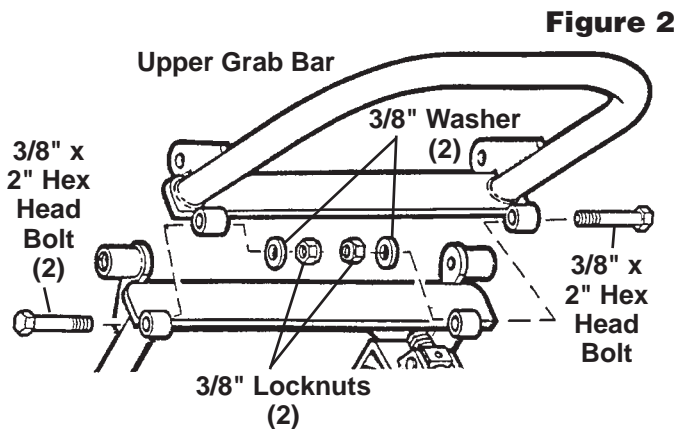

Figure 2
3. Align the hinge connectors of the upper grab bar with the hinge connectors of the main frame assembly as shown in Figure 2. Secure the grab bar in place using two hex head bolts (3/8" x 2"), two washers (3/8"), and two locknuts (3/8").